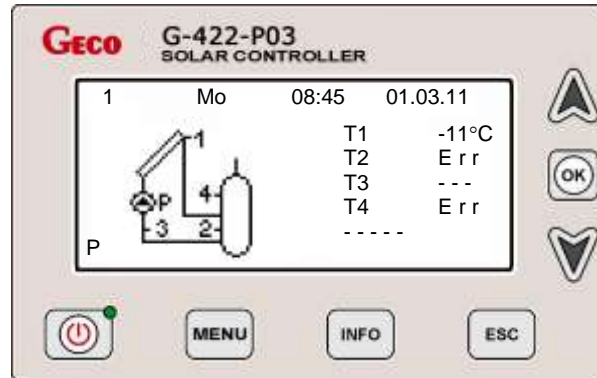

Figure 2. An example of the main screen display
After connecting the controller to the power source, it is operating in a standby mode. The diode is solid green, the LCD screen is half-lit and it shows the current version of the controller. The controller can be switched on by pressing  button. During its regular mode of operation the controller can be put into standby mode at any time by pressing . When in standby, all the outputs and sound alarm signals are switched off. When the controller is switched on, the screen displays an image similar to that shown in Figure 2.
In the upper part of the screen there are displayed, respectively, starting from the left-hand corner: currently selected installation scheme (1), day of the week (Mo), time (08:45) and date (01.03.11). Below, on the left hand side the installation scheme diagram is shown. In the lower-left hand corner P denotes the solar collectors pump and vertical bars above it denote the current speed of the pump (5 different ranges available). T1-T4 symbols on the right hand side of the screen denote temperatures measured by respective temperature sensors. It is important to install the sensors correctly, in accordance with the description of the scheme. Incorrect connection of the sensors may cause improper functioning of the control system. To the left of the sensor symbols the corresponding temperatures are shown. T1 corresponds to the temperature measured by sensor no. 1, T2 corresponds to the temperature measured by sensor no. 2 and so on. If the sensor necessary for proper control is not installed, becomes damaged, or the measured temperature exceeds the measurement range of the sensor, an "Err" sign will appear next to the corresponding sensor number (It is shown in Fig. 2 for sensors no. 2 and 4). In such case all external devices are switched off and the controller sounds with a discontinuous alarm sound. When a sensor not necessary for proper control is not connected, horizontal lines (----) will appear instead of the temperature value next to the corresponding sensor number (as shown in Fig. 2 for the sensor no. 3). In the lower right-hand corner, below the temperature values, instantaneous power output, computed by the controller, is displayed. If the collector pump is switched off or the temperature sensor on the return of the solar circuit is disconnected (usually sensor T3), horizontal lines (----) instead of the power value are displayed. For installation schemes 6, 14, 15, and 16 the option of instantaneous power is unavailable.